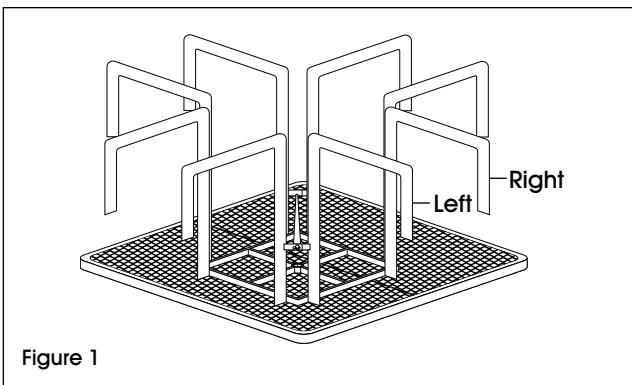

Figure 1
2. Flip the tabletop upside down. Take one leg at a time and loosely attach the end of the leg to the tabletop using one bolt, two washers and one nut. The leg braces are an inside mount. The legs are labeled left and right. Match the legs to the left and right markings on the underside of the table. (See Figure 1)